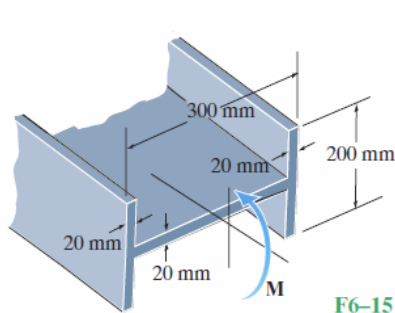

Fig. 2
2. If the beam is subjected to a bending moment of  $M = 20 \text{ kNm}$ , determine the maximum bending stress in the beam. Fig. 2.